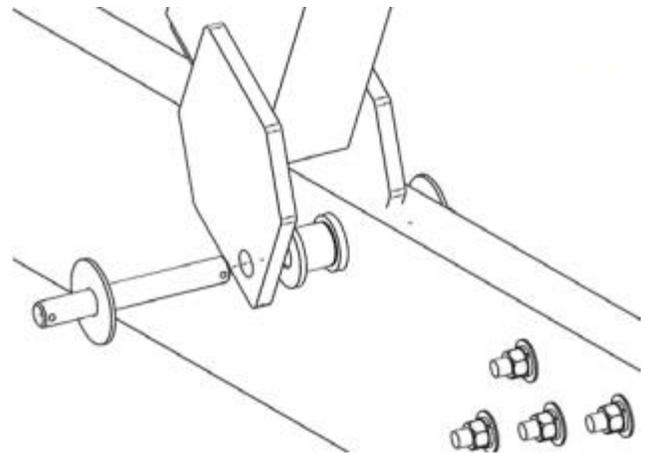

Figure 10
1. Align the mounting holes on the Bow Side H-Frame hinge plate with the Hinge Bushings located on the Side Beam as shown in Figure 10.
2. Insert one (1) 1/8" Cotter Pin into one (1) 1" Hinge Pin, bending the tines of the Cotter Pin outward and apart, securing the Cotter Pin within the Hinge Pin.
4. Slide the Hinge Pin through the hinge plate as shown in Figure 10.
5. Insert one (1) Lollipop Washer and one (1) 1/8" Cotter Pin into the protruding end of the Hinge Pin, bending the tines of the Cotter Pin outward and apart, securing the Cotter Pin within the Hinge Pin.
1. Align the mounting holes on the Middle H-Frame hinge plate with the Hinge Bushings located on the Side Beam as shown in Figure 10.